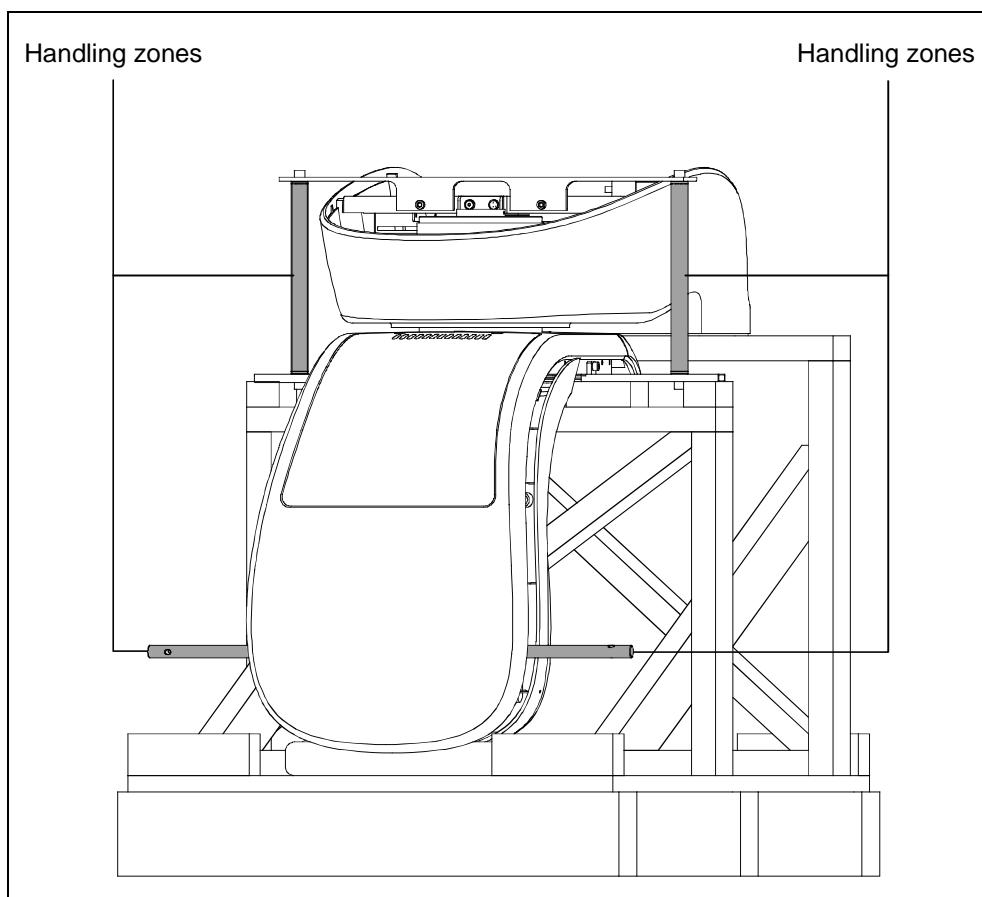

Figure 6-4
2. Remove the screws fixing the rotating arm to the wooden frame. Raise up the support/rotating arm using the designated handling zones (Figure 6-4 - This operation requires the presence of two persons).